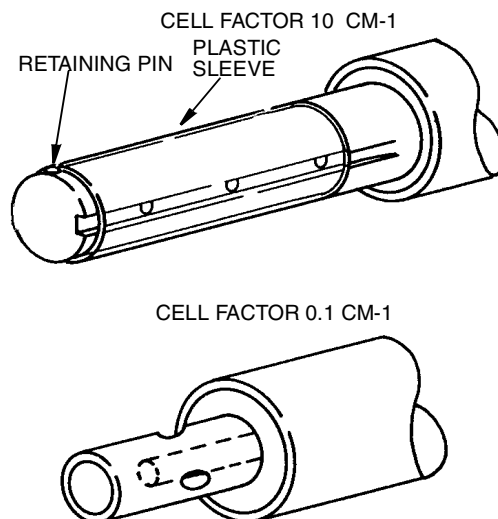

Figure 19. Immersion Portion of Sensors
Deposits on the electrode (immersion portion of the sensor, Figure 19) can seriously affect the sensor's accuracy.
6. With a sensor having a cell factor of 10^{-1} cm, slide the plastic sleeve over retaining pin and remove sleeve (see Figure 19). Clean both sides of the plastic sleeve.